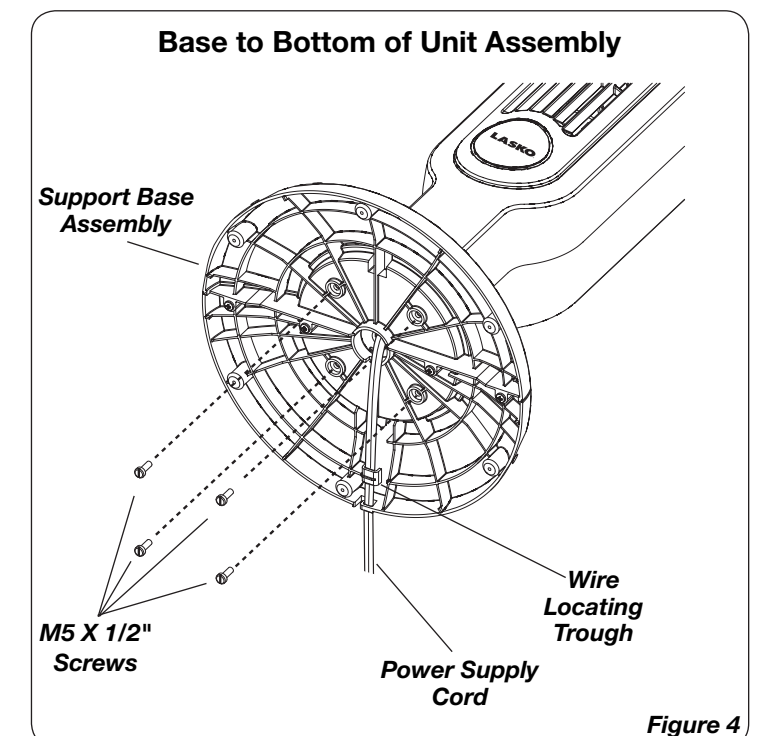

Figure 4
5. Secure the **Support Base Assembly** to the bottom of the Fan with (4) 1/2" **Long M5 Screws**. Gently pull any excess slack of the **Power Supply Cord** and place it in the **Wire Locating Trough**. (**Figure 4**)